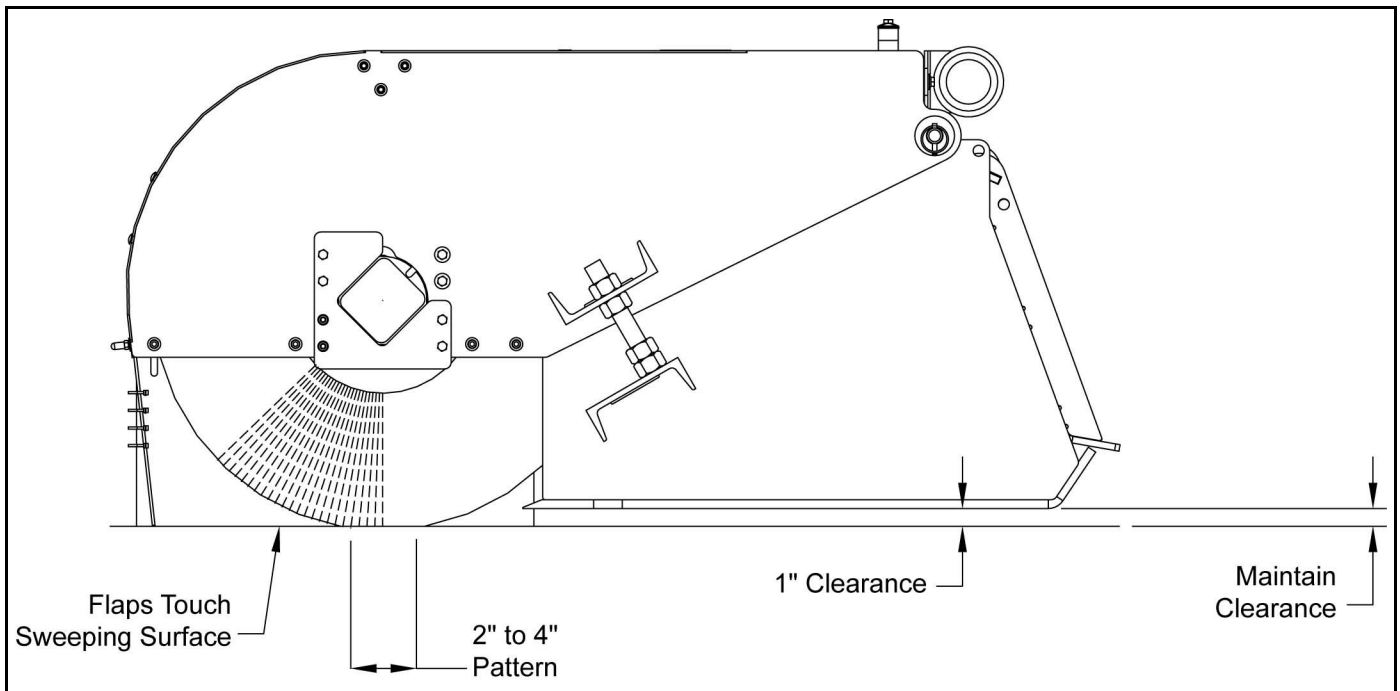

Figure 5. Adjustment Bolt and Brush Pattern
1. Loosen the jam nuts above and below the plate on both sides of the sweeper hood. See Figure 5.